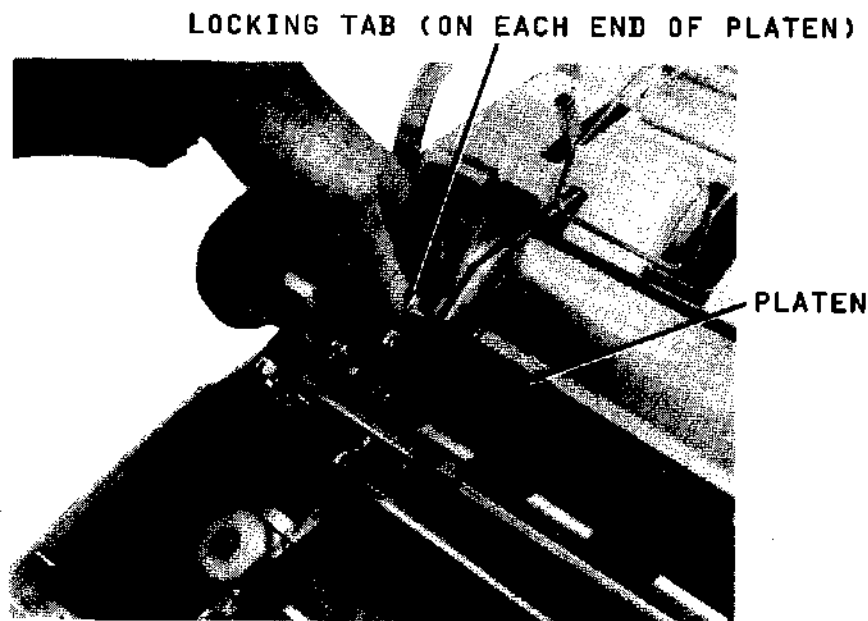

Figure 3-6 Friction-Platen Removal
- c. Press the locking tabs and lift the platen upward out of the printer (see Figure 3-6).